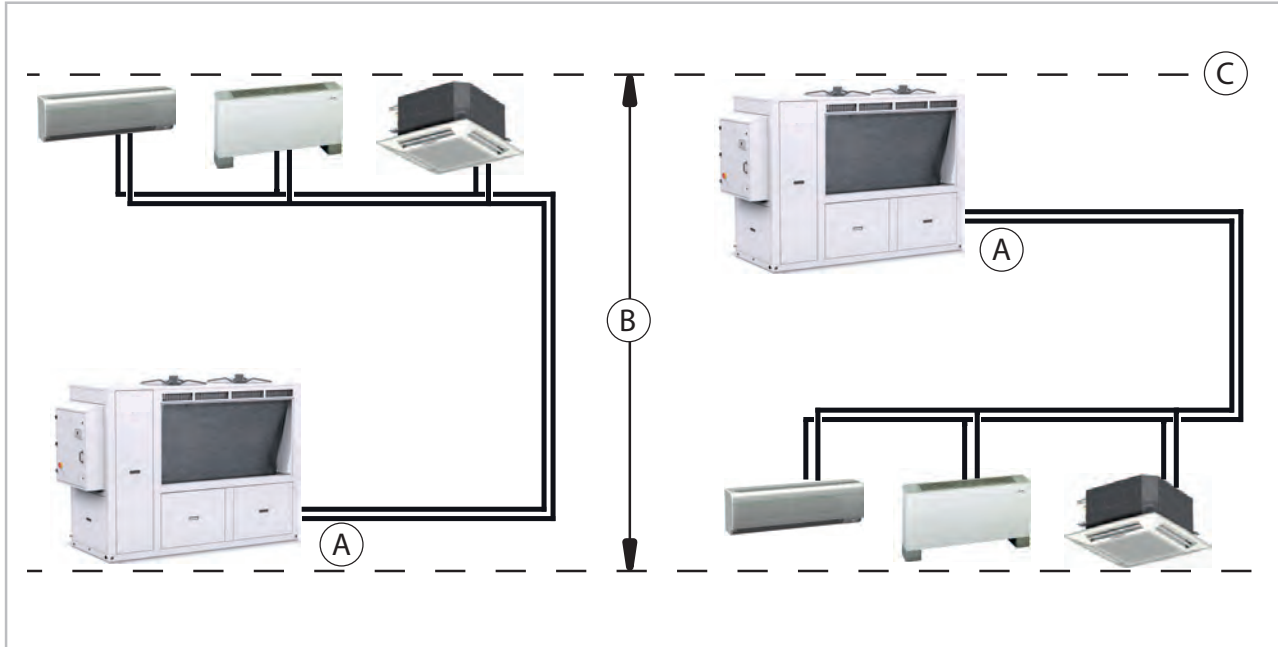

Fig. 15: Unit preliminary pressure
- If the unit is positioned at the **highest** point in the system, the unit preliminary pressure (=non-circulating pressure) must be set to **at least 70 kPa (0.7 bar)**. Please note that the system pressure at the lowest point is **increased** by the geodetic system altitude! (See Fig. 15)